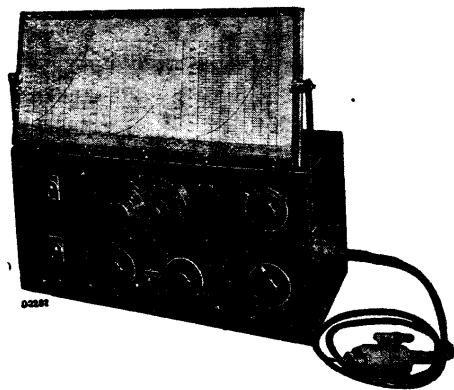

Fig. 1.
1. Service oscillator G.M. 2880 F. (Fig. 1).